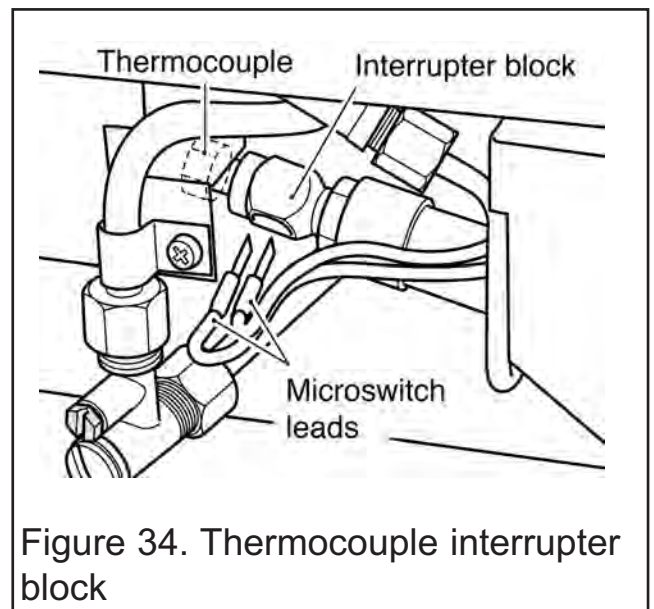

Figure 34. Thermocouple interrupter block
2. Loosen the thermocouple nut to free the microswitch leads and pull the leads clear of the thermocouple interrupter block (See figure 34).
16.13 To remove the thermocouple interrupter block (See figure 34).